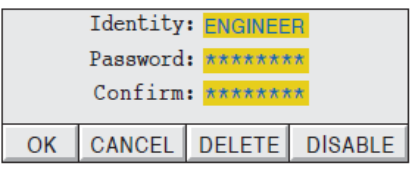

Figure 81 ID Edit Page
2. Touch the word ENGINEER in the Identity field of the resulting dialogue box (Figure 81).